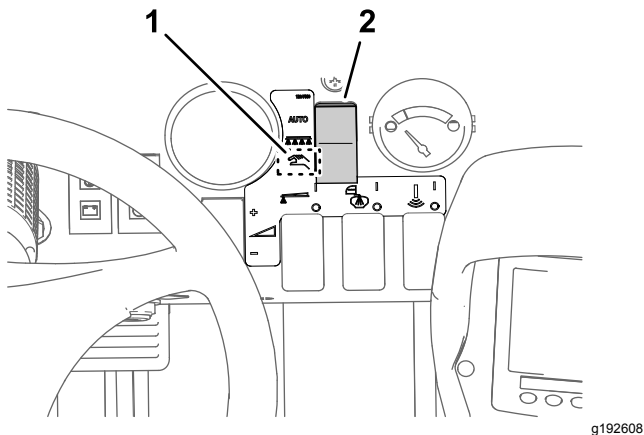

Figure 38
2. Set the sprayer mode button to the Manual Mode (Figure 38).